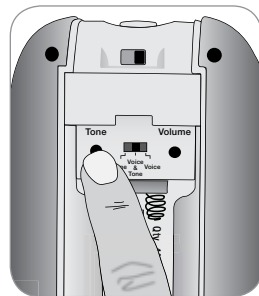

Fig. 5
3. Press TONE button (fig. 5) to scroll through the tone selections.
5. Each time you press the button, tone will change and a two (2) second sample plays. The last sample heard is the tone utilized for the alarm when the magnet is removed from the face plate, depending on which monitoring mode is selected.